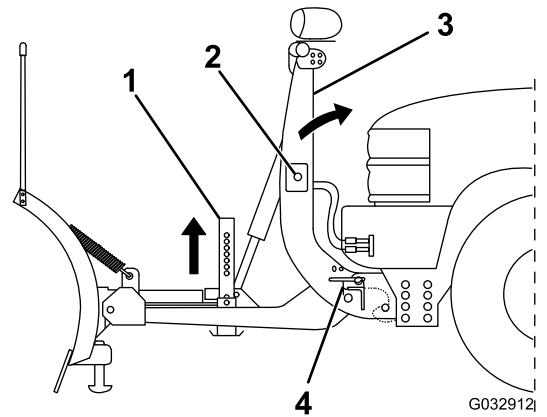

Figure 30
- Push the SmartHitch2 switch on the side of the coupler tower upward and raise the tower until the spring pins snap in (Figure 30).
- Pull the kickstand spring pin outward and raise the kickstand, then release the spring pin to secure it (Figure 30).